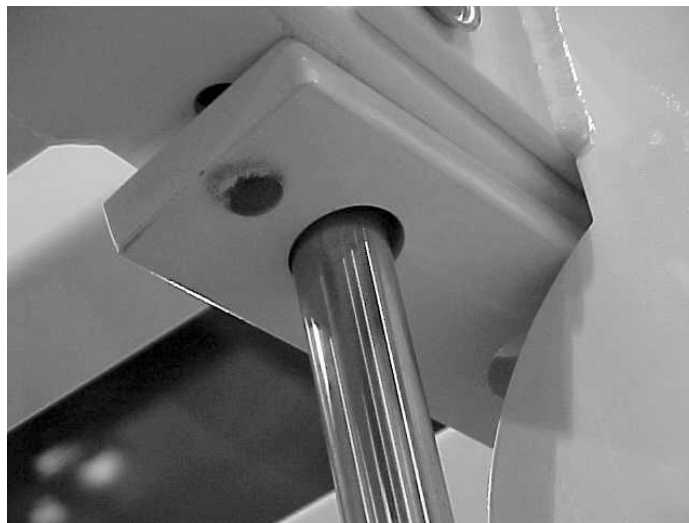

Figure 10. Bolt on the top plate.
- F. With the top plate on the guide rods, bolt on the top plate to the top of the cells as shown in Figure 10 using a 9/16” socket and combination wrench and the 3” bolts (with cap washers) that were previously inserted.